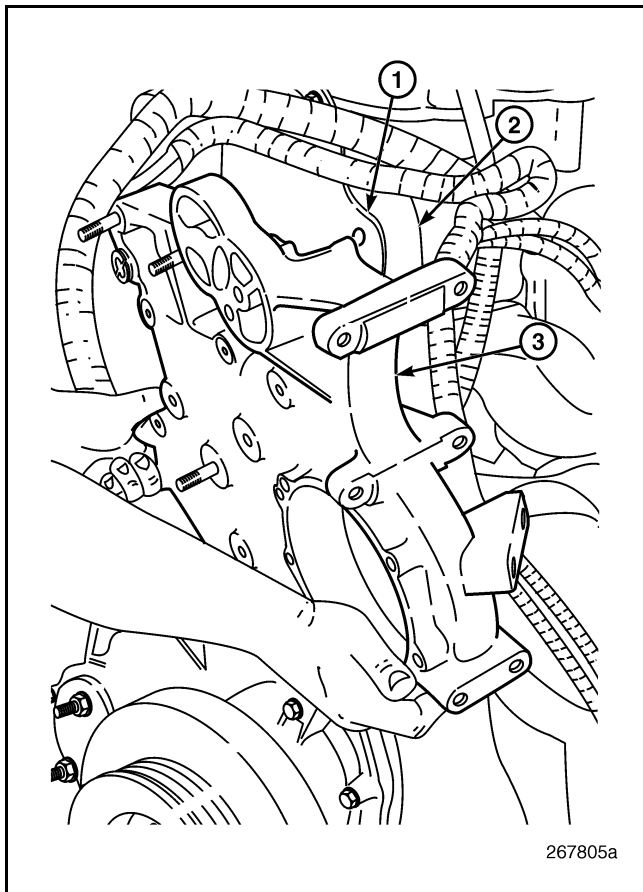

Figure 151 — Water Pump Housing Removal
9. Remove the housing from the cylinder block (Figure 151).